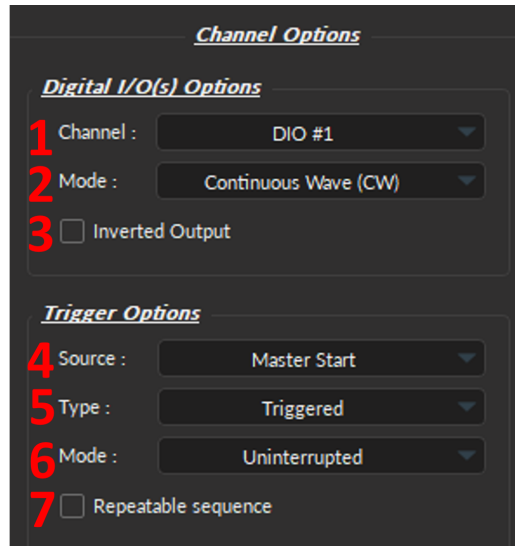
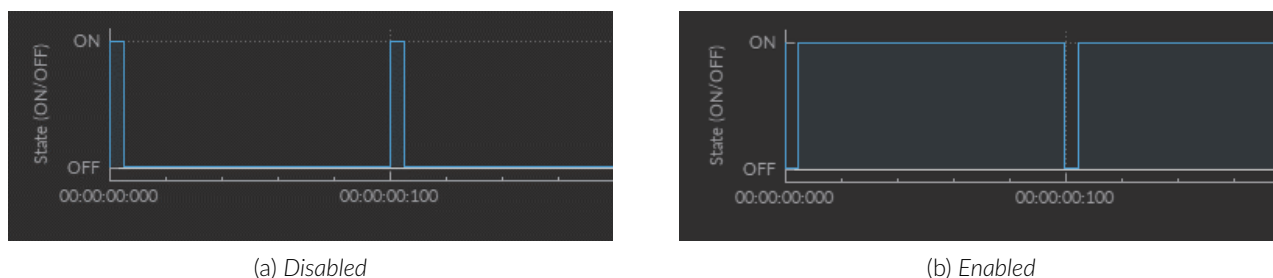

Figure 8.11: Channel(s) configuration window, Digital I/O Channel Options
Figure 8.13: *Inverted Output*
1. The **Channel** (Fig 8.11, 1) identifies the channels available to create a Digital I/O. The channel can be changed by selecting a new one from the drop-down list. Each numbered channel on the physical OTPG corresponds to the same number of the digital channel within the software.
2. The **Mode** (Fig 8.11, 2) identifies the type of signal sent (for output channels) or the way the signal is measured (for input channels). Three modes are available:
3. The **Inverted Output** checkbox (Fig 8.11, 3), when enabled, will convert every 0 to 1 and 1 to 0, such as in Fig. 8.13.
- The **Source** trigger option (Fig 8.11, 4) specifies the element that will set off the digital output. Two options are available:
- The **Type** (Fig 8.11, 5) defines how the trigger activates a sequence. This includes input sequences, which can be triggered/gated by an outside source.
- The **Mode** (Fig 8.11, 6) defines how the sequence will run if a second TTL pulse is received before the sequence ends. This includes input sequences, which can be triggered/gated by an outside source. Four options are available:
7. The **Repeatable sequence** checkbox (Fig 8.11, 7), when enabled, will run the sequence when additional TTL pulses are received (Fig. 8.15).
The parameters contained in the **Sequence Options** depend on the **Channel Mode** (selected in **Channel Options**, Fig. 8.11), as following: